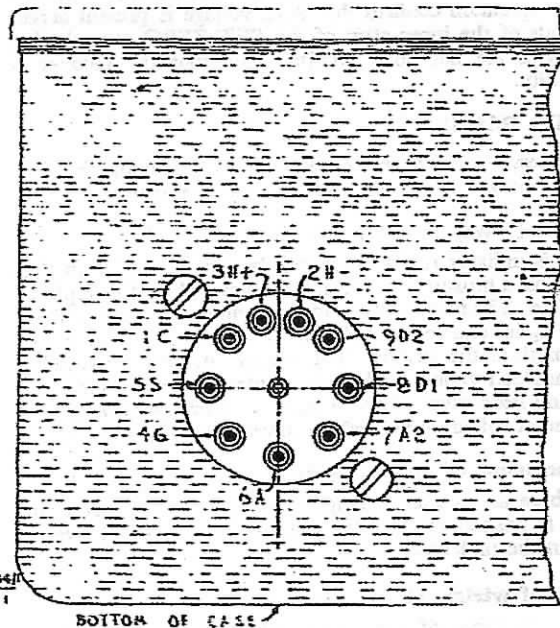

Fig. 1 — View of output socket on supply unit
5. Connect an Avometer on 400V, A.C. range between sockets 6A and 1C (see Fig. 1) with the SELECT ANODE at NORMAL. Measure the voltages with the ANODE switch at all positions from D to 250. The voltages at positions D and REC should be approx. 12V and 30V respectively. At all positions the measured values will be 20% to 30% above the figures engraved on the panel, this being to allow for transformer regulation.